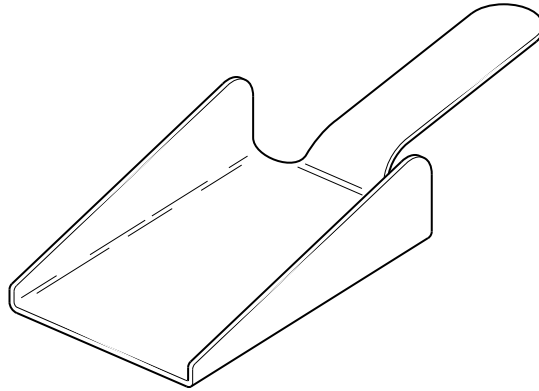

Fig. 7
Fig. 7 shows a scoop used in a sweet shop.
(a) Give **four** justified design requirements for a scoop of the type shown in Fig. 7.
(e) (i) State a **suitable specific material** for a scoop of the type shown in Fig. 7. Give **two** properties or characteristics that make the material suitable for this use.
- (ii) Describe, in detail, how the scoop shown in Fig. 7 would be manufactured as a batch of 250.